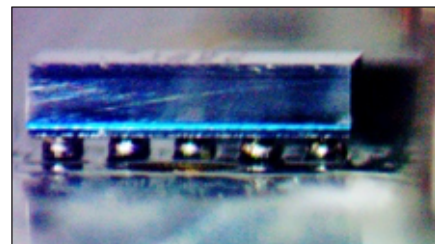

Figure 5: Correctly seated die showing well rounded bumps and no flux residue between the bumps
- Inspect that the die rests flat with respect to PCB surface, is within the silkscreen boundary and the solder bumps can be clearly seen as shown in figure 5. A microscope for magnification may be necessary.